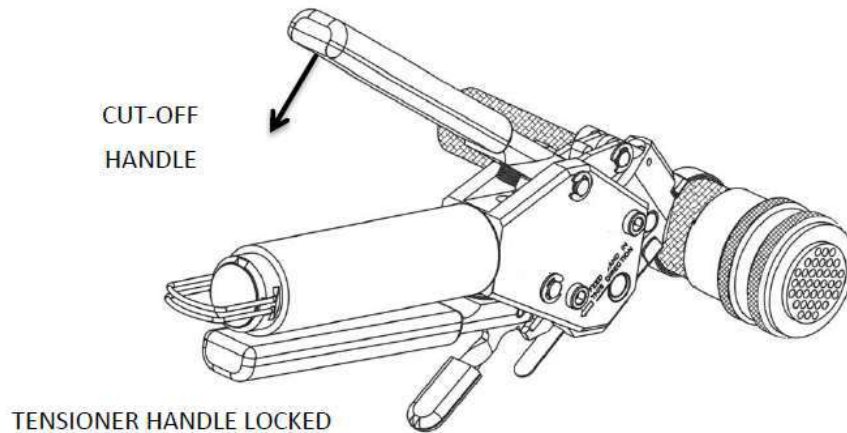

Figure 31
- e. Once the tensioner handle is locked in place, squeeze the cut-off handle to finish the termination process (Figure 31).